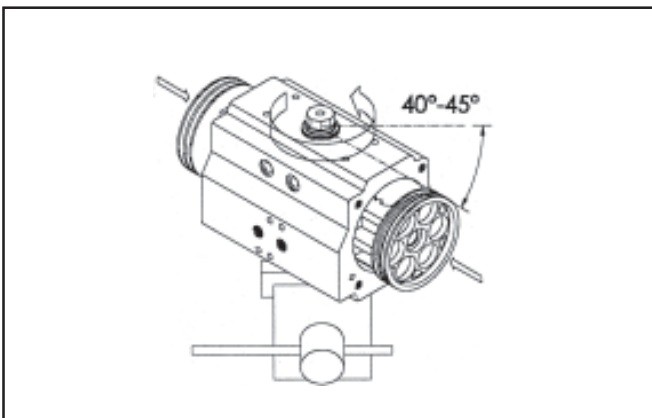

Fig. 24a
- For standard rotation assembly (clockwise to close) rotate the body (29) about 40° - 45° counter-clockwise from bottom view or clockwise from top view depending on which way the shaft has been linked as shown in figure 24a and 24b.
- Press the two pistons (25) simultaneously inside the body (29) until the pistons are engaged and rotate the body clockwise from bottom view or counter clockwise from top view until the stroke is completed.